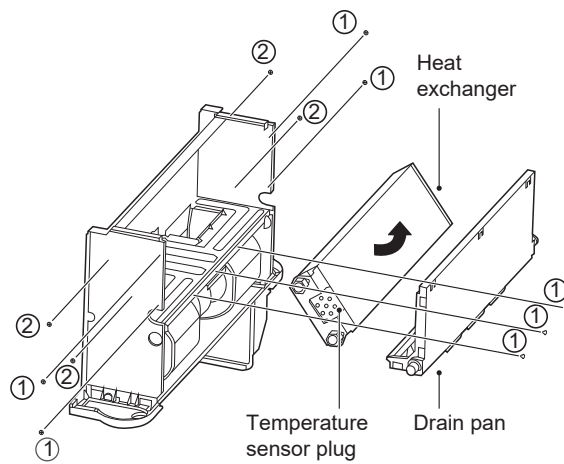

Figure 5-18
As shown in Figure 5-18, remove screws ①*7 to take the drain pan out.
Rotate the coil in the direction as shown in Figure 5-18.